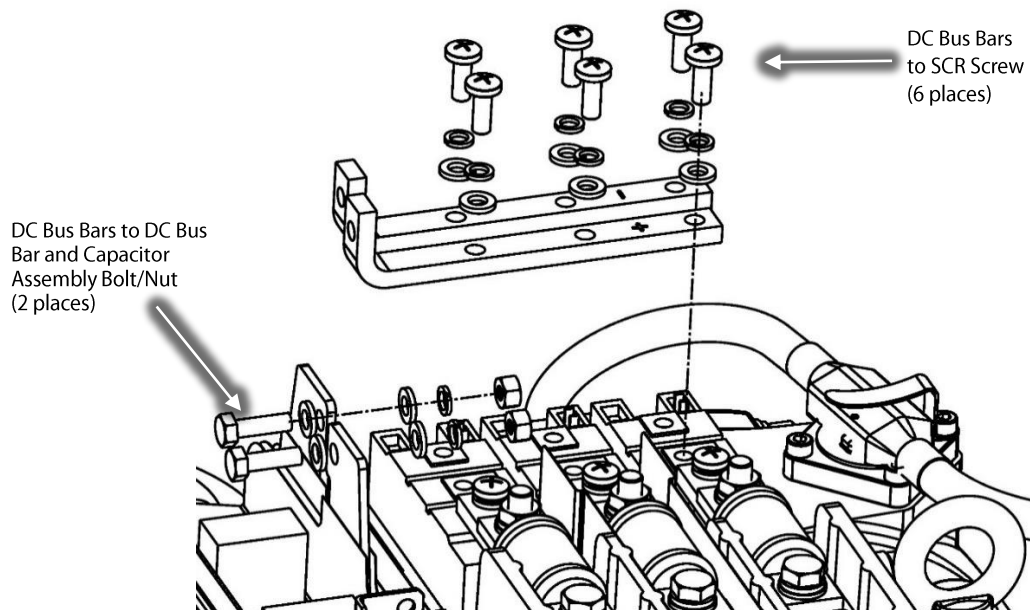

Figure 7 – DC Bus Bar Removal
16. Remove the DC Bus Bars from the SCRs. Refer to Figure 7 (DC Bus Bar Removal).
16. Reconnect the DC Bus Bars to the SCRs and torque to 5 Nm (44 in.lb.). Refer to Figure 7 (DC Bus Bar Removal).
17. Reconnect the two (2) DC Bus Bars to DC Bus Bar and Capacitor Assembly and torque to 10 Nm (7 ft.lb.). Refer to Figure 7 (DC Bus Bar Removal).